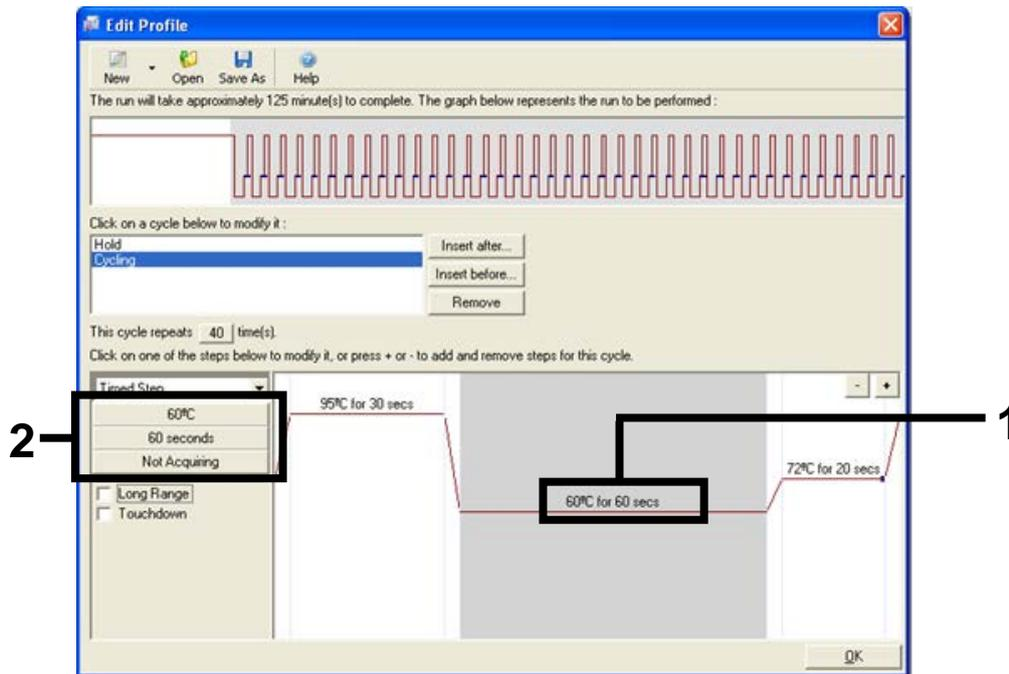

Figure 26. Cycling step at 60°C (1 = Step two: temperature and time setting; 2 = “Not Acquiring” button).
- Highlight the second step and set to 60°C for 60 secs. Enable data acquisition during this step by selecting the “Not Acquiring” button (Figure 26).